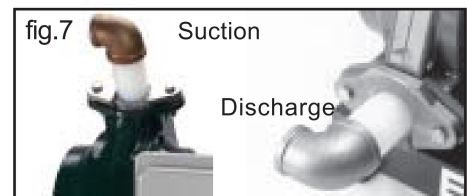

fig.7
- Plumbing Fittings - All fittings including those supplied with the pump must be installed with thread sealant. fig.7
- Install for Maintenance - Install the pump in a manner that allows easy access for inspection & maintenance. Connect plumbing to the pump using unions or easily removed couplings. fig.7